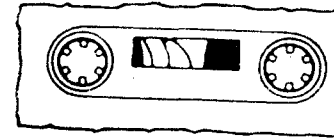

Fig. 1
1. Check that there are no loose layers of tape visible through the cassette centre window (see fig. 1). Take-up these loose layers using a pencil or ballpoint pen before inserting the cassette into the machine (see fig. 2).